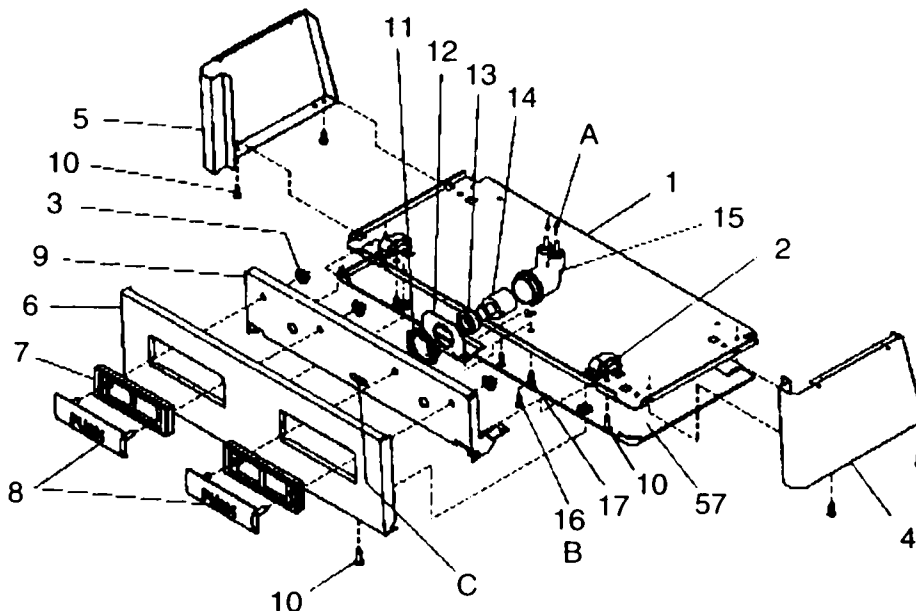

FIG. 3
See Fig. 3 (on Page 3)
- 8) Stream height is factory set at 45-50 PSI. If supply pressure varies greatly from this, readjust stream height to approximately 1-1/2" (38mm) above the bubbler guard by turning adjustment screw, accessible by removing front push panel. Item No. 6 (see Fig 3 & 5)
- 10) Replace the front panel and secure by retightening four (4) screws.